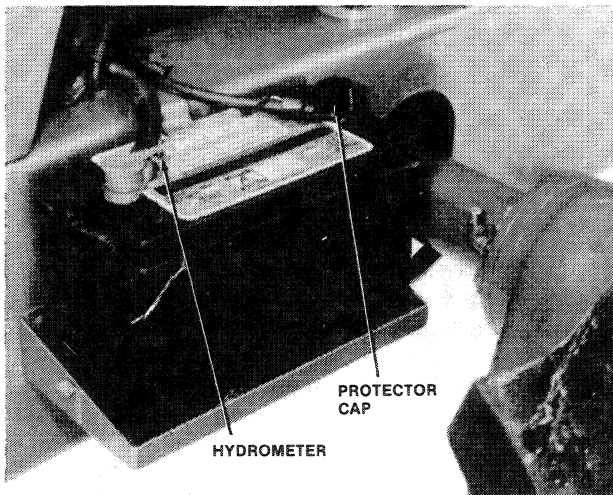

FIGURE 2-16: Connecting Battery Cables
22. Connect battery cables to the batteries (Figure 2-16). Torque to 10 N·m (7 lbf ft).